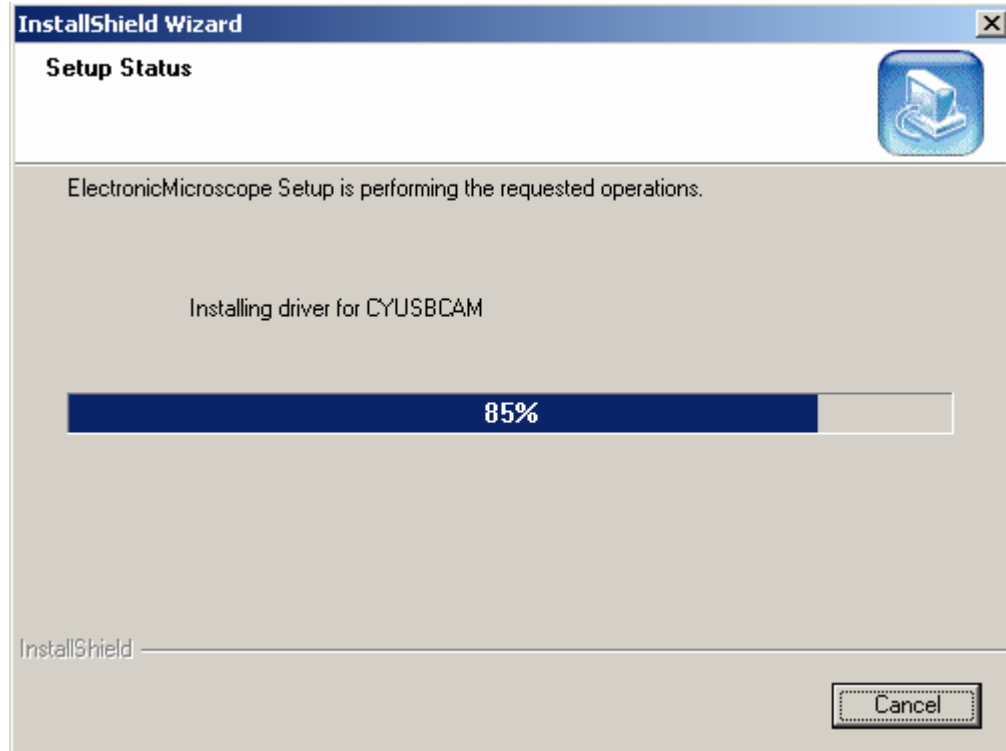

Figure 3.
3. After the installation path is selected, click the button of “*Next*”. The setup program begins to install the system onto your PC. At the same time, a status window pops out to show the installation status, as displayed in figure 3.